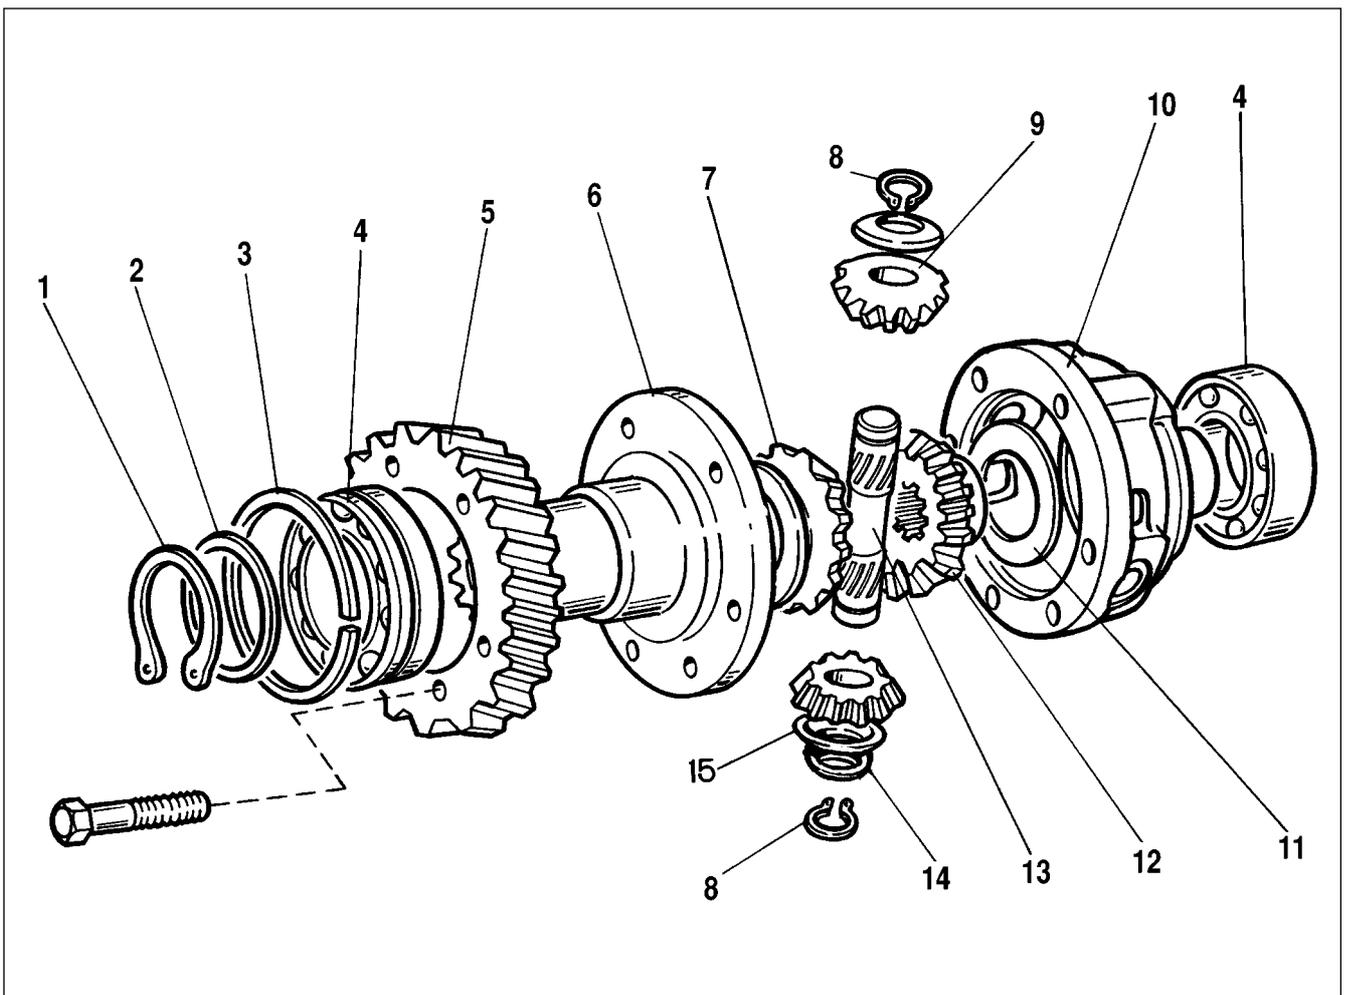

Fig. 3-42. Differential, exploded view:
- remove circlip 1 (fig. 3-42) and spring washer 2 from the front bearing;
- remove circlips 8 (see fig. 3-42) and spring washer 14, then press out the differential pinion shaft and remove the differential pinions and the drive shaft gears with support washers.
With spring washer 15 being removed (see fig. 3-42) ensure there is no radial movement of circlip 8 in shaft grooves 14. Replace circlips in case of free play.